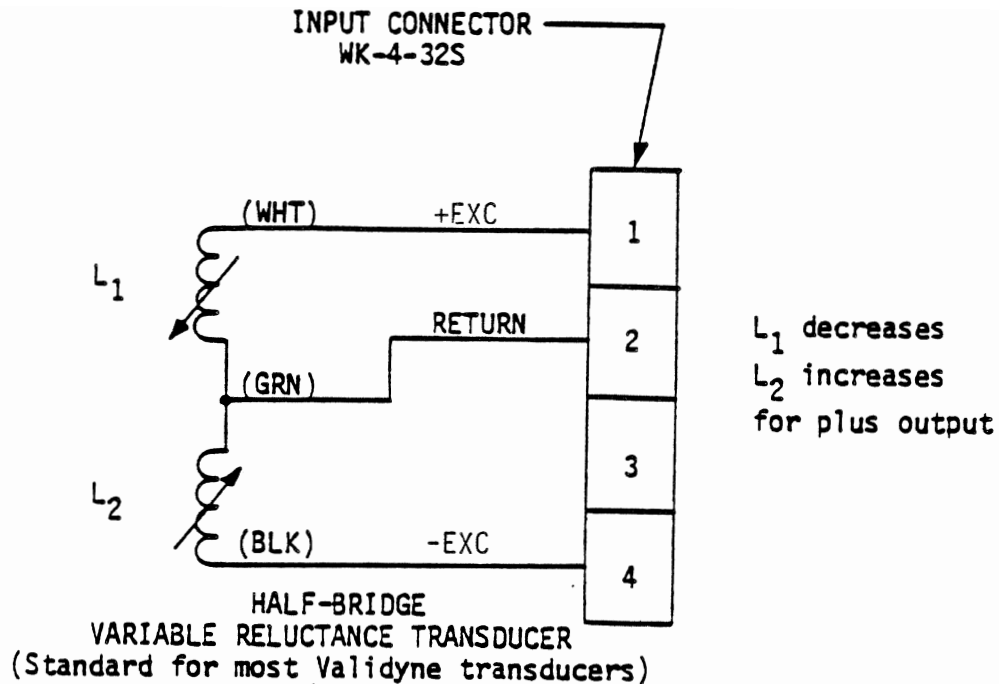

Figure 3-1. Transducer Connections for Two-Arm Operation.
Figures 3-1 through 3-3 describe the different methods of connecting the variable reluctance, strain gage, LVDT/RVDT and potentiometer transducers to the MC1 input connector.
A. Connect transducer as shown in Figure 3-1. Position jumper E1 (2-ARM/4-ARM jumper) to the 2-ARM position and jumper E3 (VAR REL, STR. GAGE/LVDT INPUT jumper) to the A position.